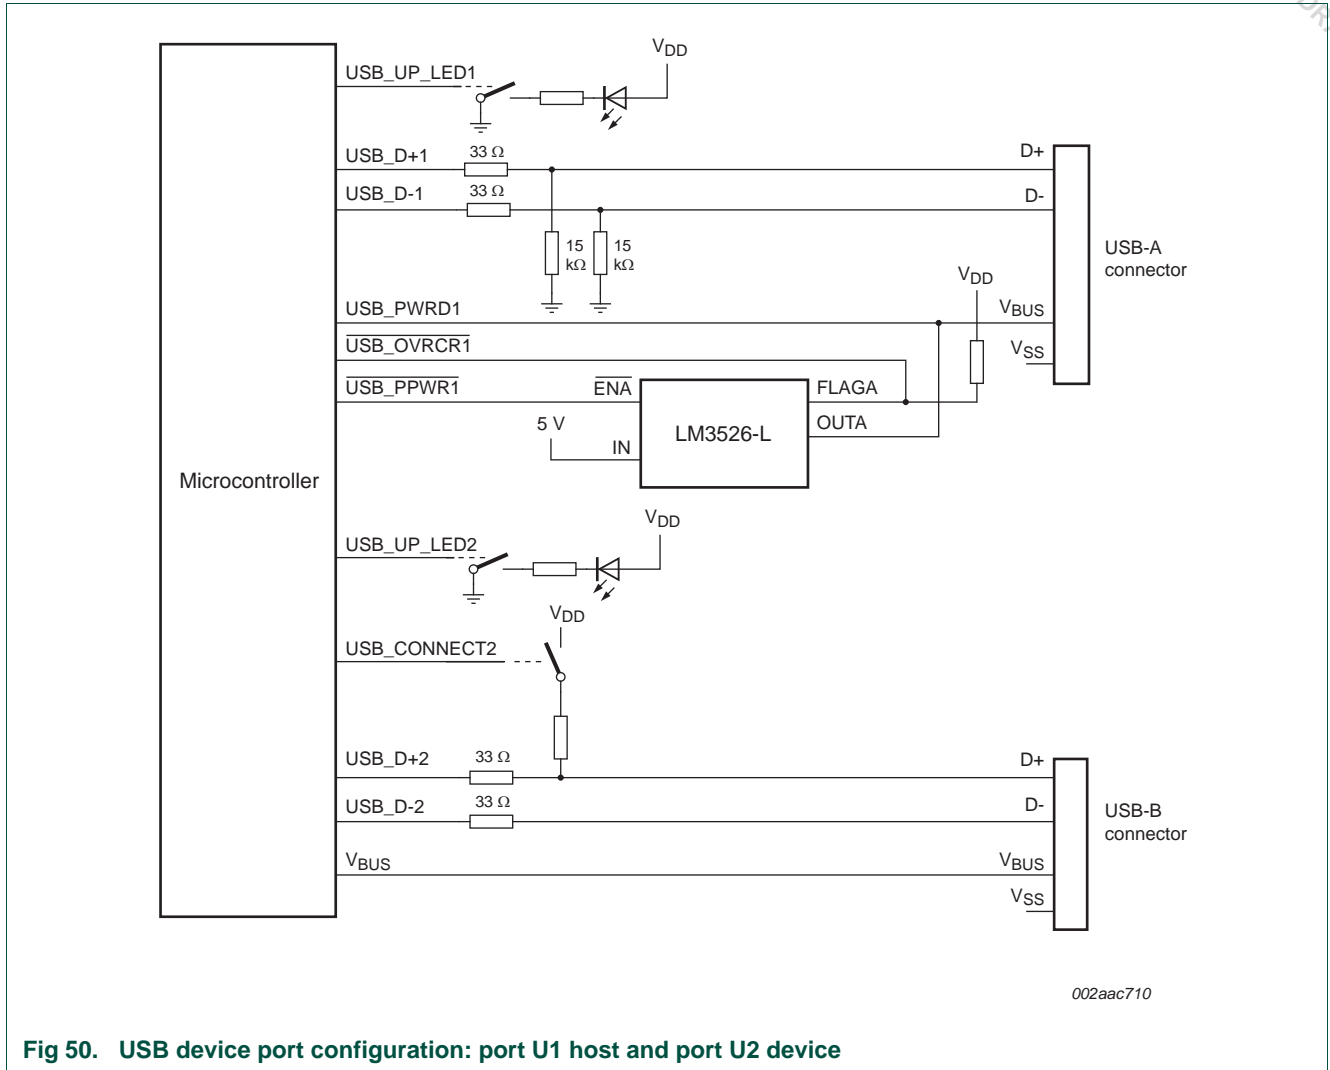

Fig 50. USB device port configuration: port U1 host and port U2 device
- One Host port and one Device port (see Figure 50)